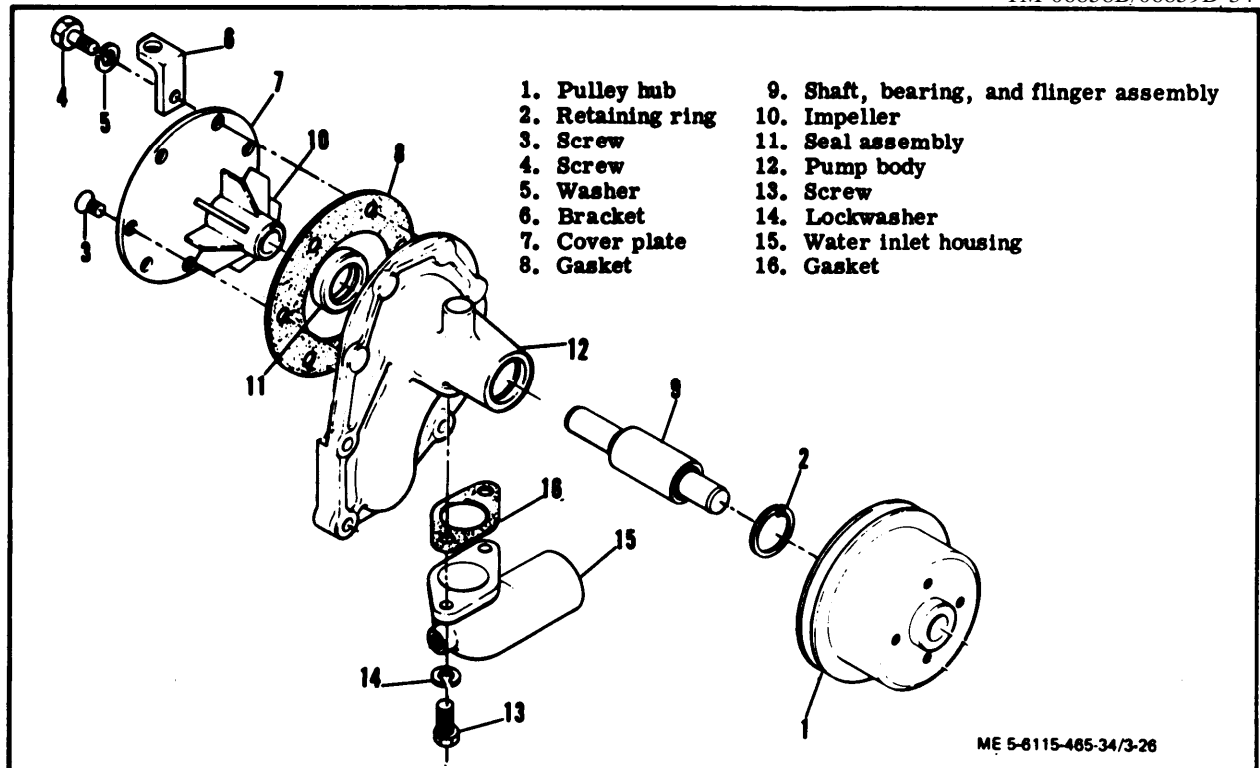

Figure 3-26. Water Pump Assembly, Exploded View
(1) Using a suitable puller, remove pulley hub (1, figure 3-26).
(2) Remove retaining ring (2).
(3) Remove screws (3 and 4), lockwasher (5) and bracket (6) to remove cover plate (7) and gasket (8).
(4) Support front end of pump in bed of arbor press and press shaft bearing and flinger assembly (9) from impeller (10), seal assembly (11), and pump body (12).